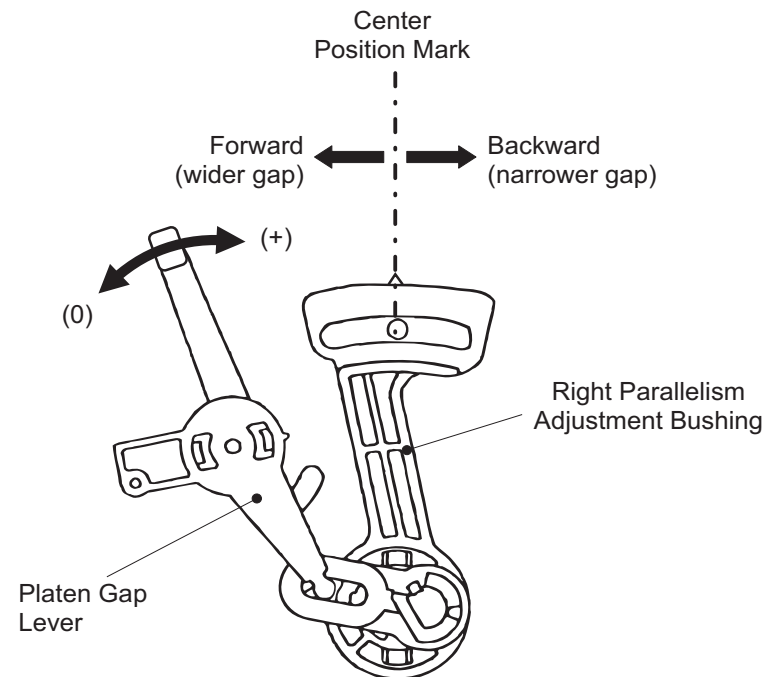

Figure 5-2. Parallelism Adjustment Bushing
1. Set the right and left parallelism adjustment bushings to the center position mark. This is where the ridge on the top of each bushing aligns with the notch and the screw hole on the metal frame. See Figure 5-2.